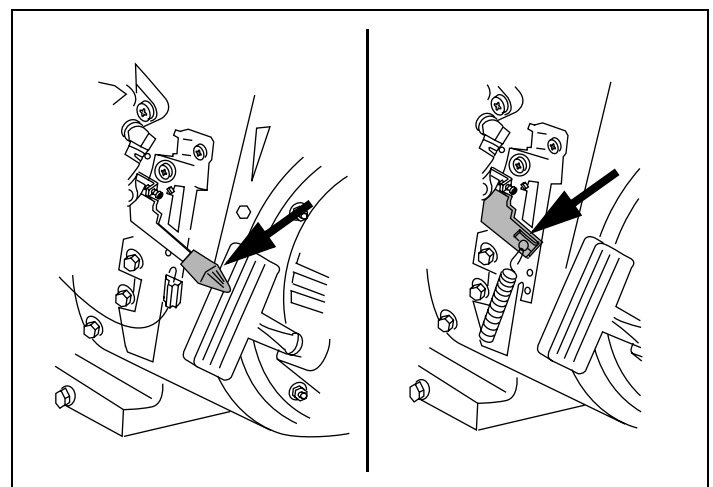

Figure 26. Engine Mounted Speed Controls
7. Move Engine Speed Control to desired speed in “RUN” range. See Figure 26.